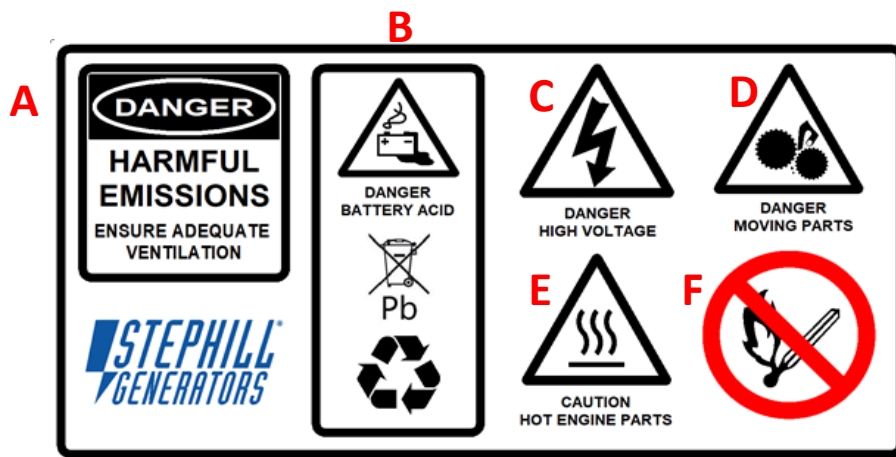

Fig.8
**Fig.8** below can be found on the control panel.